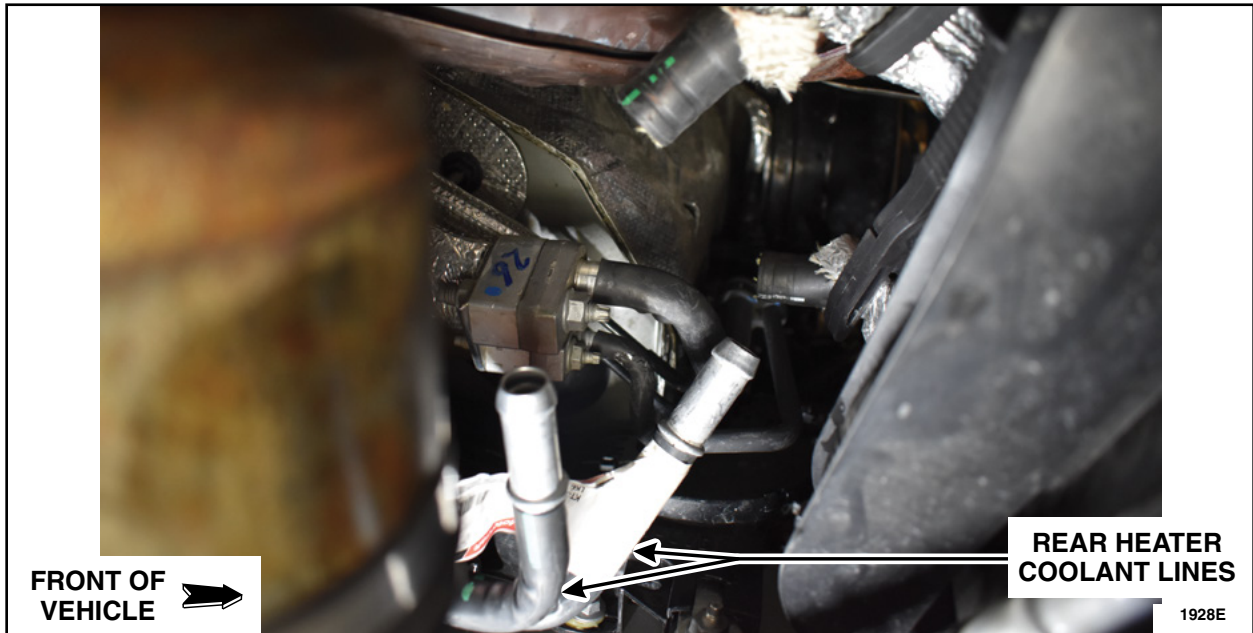

FIGURE 5
7. Disconnect and drain the rear heater coolant lines. See Figure 5.